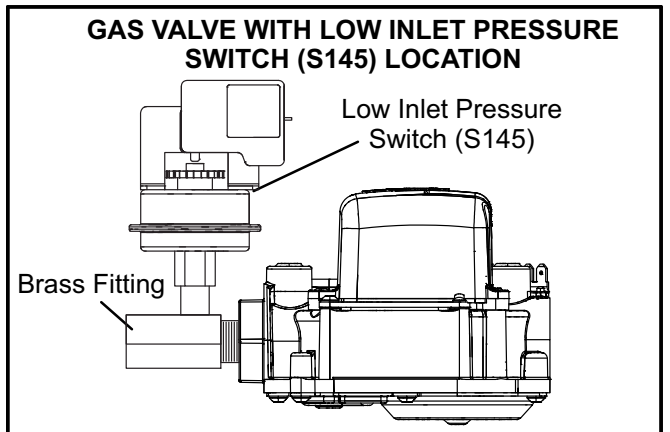

FIGURE 2
- 2 - Remove the heating compartment access panel. Turn the automatic gas valve switch to the **OFF** position. See figures 2 and 3.
- 9 - Thread provided brass fitting to gas valve inlet until hand tight. Using properly sized wrench, tighten fitting 2 to 3 full turns being careful to position the side port to allow clearance for the pressure switch and harness. See figure 2.
**NOTE** - Some installations may require the pressure switch and fitting assembly to be positioned differently than shown in figure 2.
When testing supply gas pressure, use the 1/8" N.P.T. supply line tap located on the gas valve to facilitate test gauge connection. See figure 2. Check gas line pressure with unit firing at maximum rate. Low pressure may result in erratic operation or underfire. High pressure can result in permanent damage to gas valve or overfire.